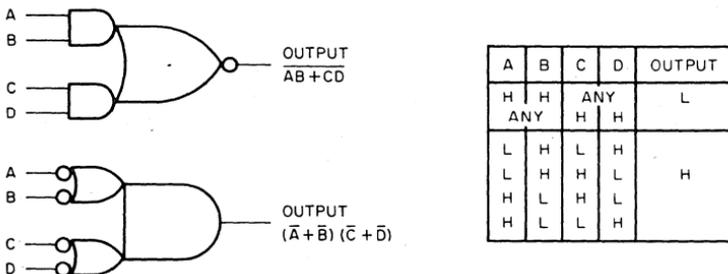

Figure 10 AND/NOR Gate Logic Symbols and Truth Table
**AND/NOR Logic Symbol:** The logic symbols for the AND/NOR gate are shown and defined in Figure 10.